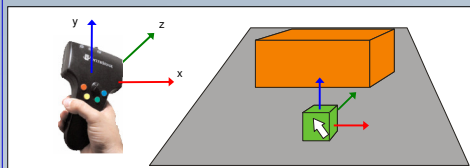

Figure 3 – Wand3D 3DOF technique.
- **Wand3D:** 6DOF wand with direct 3D movement, no collision detection or gravity, see Fig. 3.